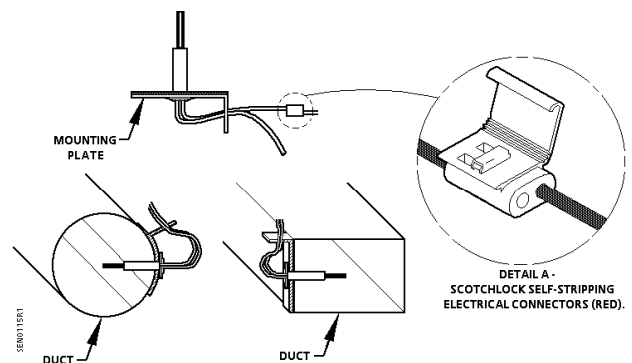

Figure 2. Single Point Thermistor Sensor Mounted on a Square or Round Duct.
4. Use the two 3M® Scotchlock self-stripping, red electrical connectors to wire the sensor to the field wiring. No wire stripping is required to use the connectors. See Detail A in Figure 2. These connectors will accept 22 to 16 AWG solid or stranded wire.